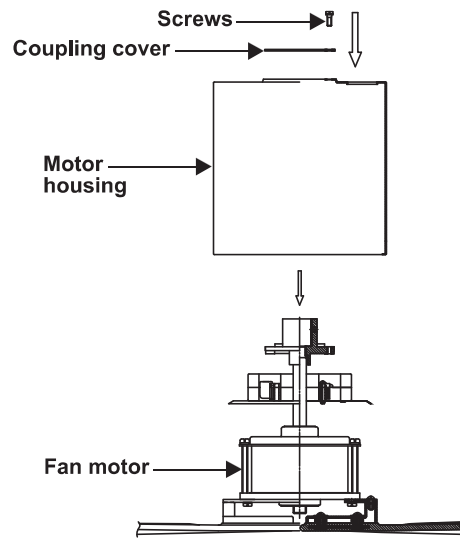

Figure 8
1. Replace the coupling cover and fan housing to the fan motor by using the screws previously removed (Fig. 8)